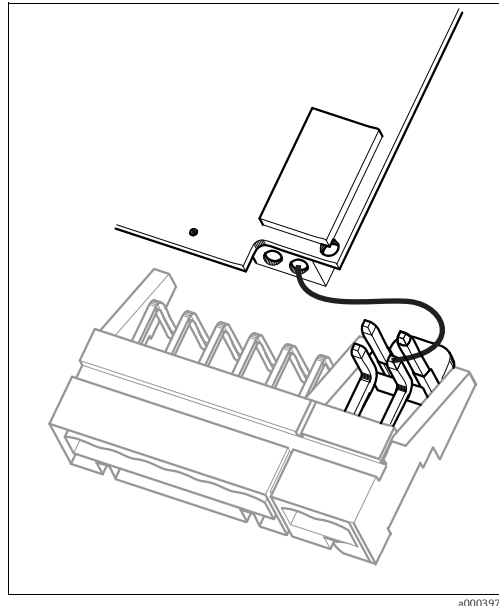

Fig. 26: pH input module in the housing cover with cable (red) for connecting glass electrodes
5. On the right-hand side of the housing cover, disconnect the red cable to the pH input at both ends (see Fig. 26).